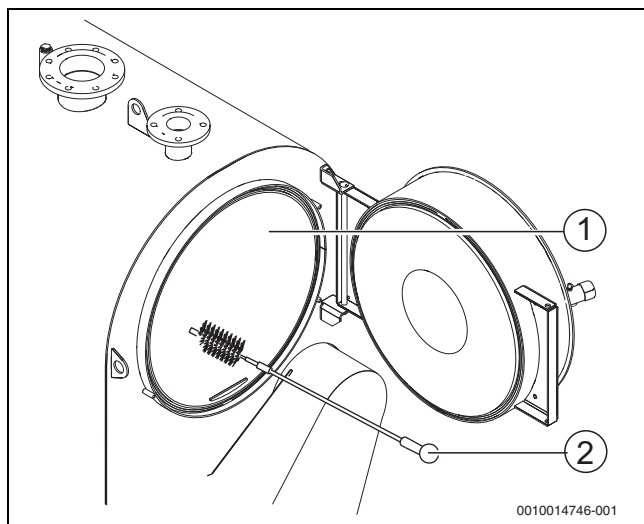
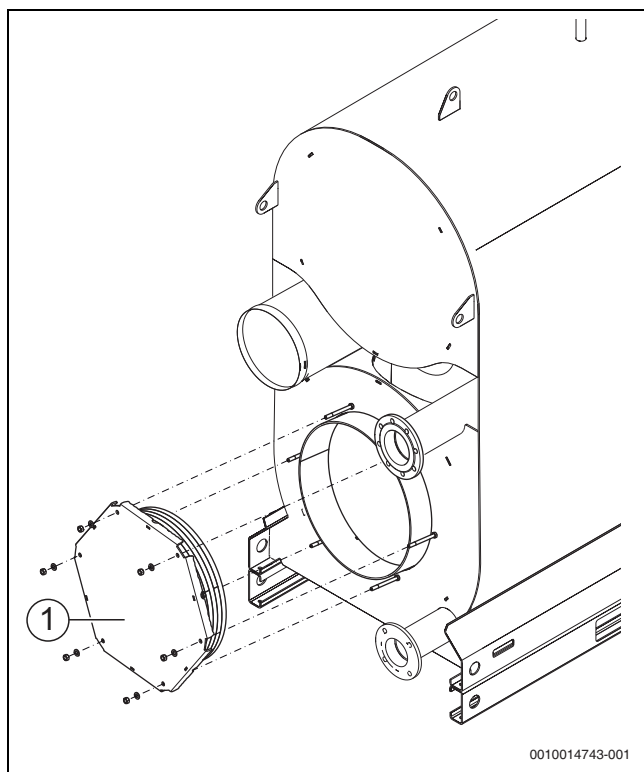

Fig. 37 Clean the heating surface
Fig. 38 Removing the cover of the reversing chamber.
- ▶ [2] Clean the heating surfaces of the combustion chamber (→ Figure 37, [1], page 35) with the cleaning brush.
- Remove all loose combustion residues from the combustion chamber (→ Figure 37, [1], page 35), the hot gas flues and the reversing chamber (→ Figure 38, [1], page 35).